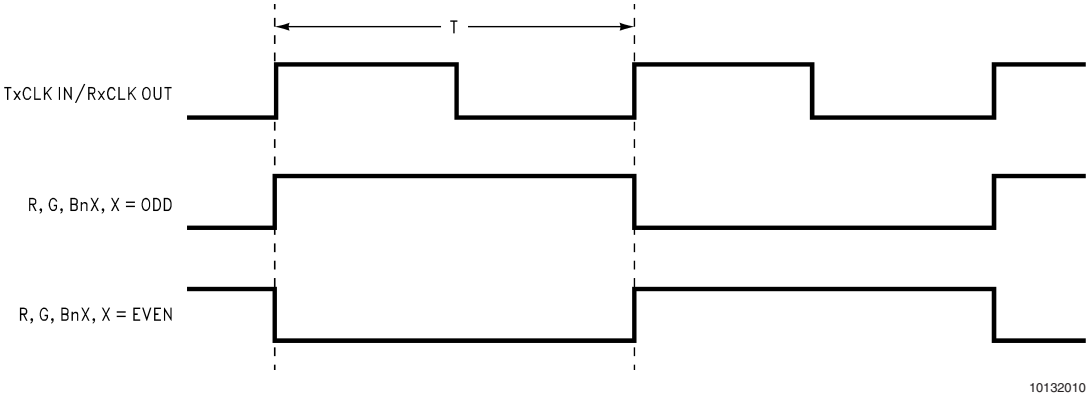

FIGURE 1. “Worst Case” Test Pattern
- Note 9:** Figures 1, 2 show a falling edge data strobe (TxCLK IN/RxCLK OUT).